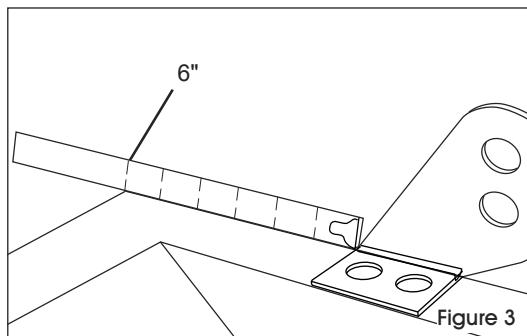

Figure 3
6. Measure 6" back from the front right side of the hopper. (See Figure 3)